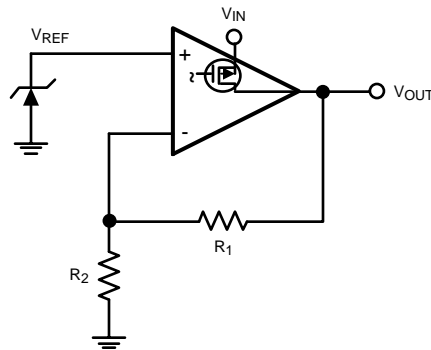

Figure 39. Regulator Topology Simplified
The output voltage is set according to the amount of negative feedback (Note that the pass transistor inverts the feedback signal). Figure 39 simplifies the LDO's topology. This type of regulator can be represented as an op amp configured as non-inverting amplifier and a fixed DC Voltage ( $V_{REF}$ ) for its input signal. The special characteristic of this op amp is its extra-large output transistor that only sources current. In terms of its non-inverting configuration, the output voltage equals  $V_{REF}$  times the closed loop gain:
Figure 40 shows a basic model for the linear regulator that helps describe what happens to the output signal as it is processed through its feedback loop; that is, describe its loop gain (LG). The LG includes two main transfer functions: the error amplifier and the load. The error amplifier provides voltage gain and a dominant pole, while the load provides a zero and a pole. The LG of the model in Figure 39 is described by Equation (18):